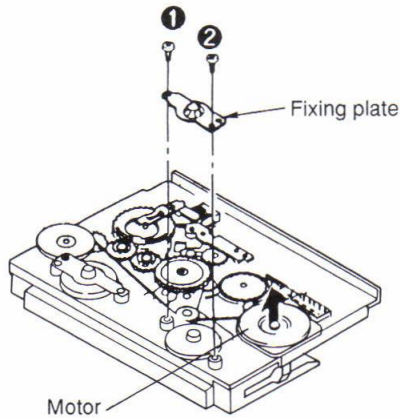

Fig. 2
3. Remove the 2 screws( ❸, ❹ ) and the fixing plate.(Refer to Fig. 2.)
4. Remove the motor in the direction of arrow.(Refer to Fig. 2.)